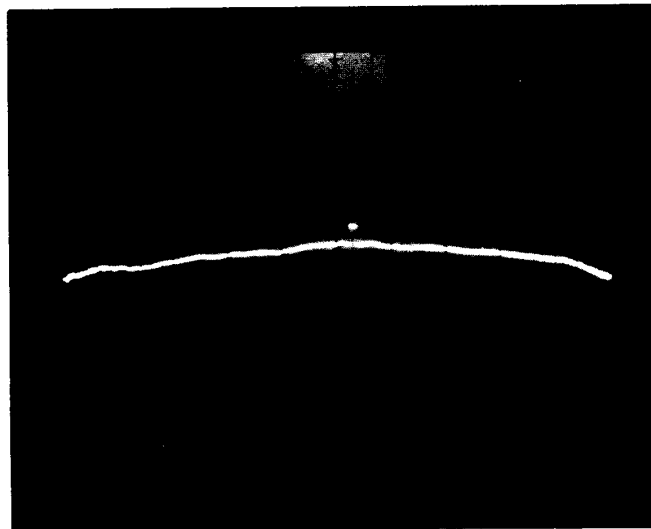

Figure 2-7. Full Sweep Display of R Absolute
11. The CRT trace should be near the middle of the CRT display and have a frequency response similar to the trace shown in Figure 2-7. If the trace variation is more than 2 dB peak-to-peak, Performance Tests 4-14 (RF Source Flatness) and 4-20 (Receiver Absolute Magnitude Response) should be performed.